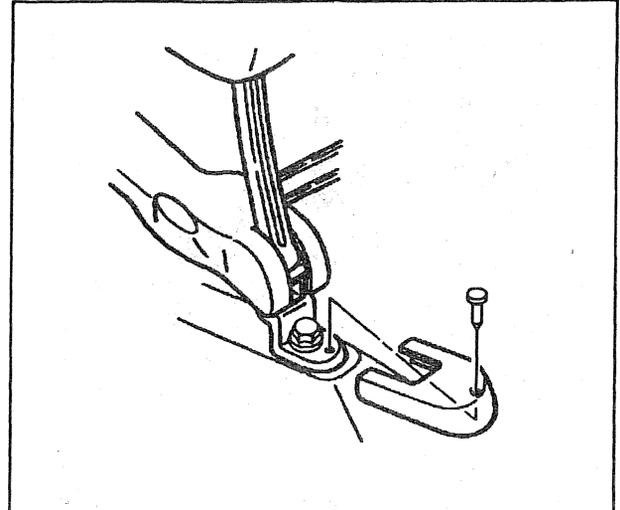

Figure 11—Seat Retaining Bolt and Components
2. Seat retaining bolts (figure 11).